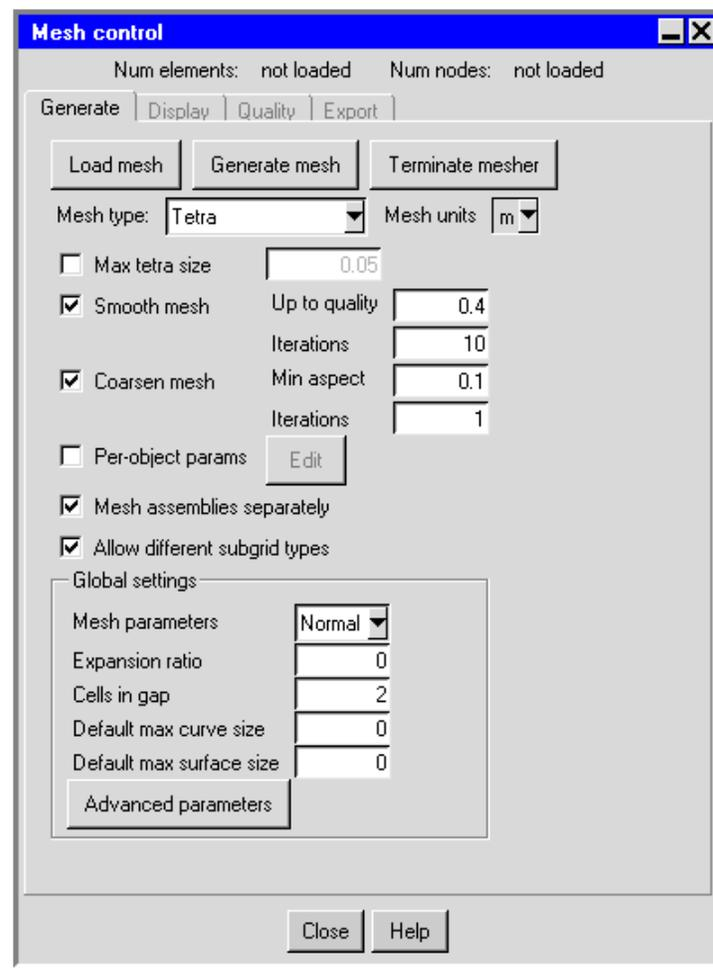

Figure 26.4.2: The Mesh control Panel for the Tetrahedral Mesher
1. Open the Mesh control panel (Figure 26.4.2) by selecting **Generate mesh** in the **Model** menu, or by clicking on the  button in the **Model and solve toolbar**.
1. Open the **Mesh control panel** (Figure 26.4.2) by selecting **Generate mesh** in the **Model** menu, or by clicking on the  button in the **Model and solve** toolbar.